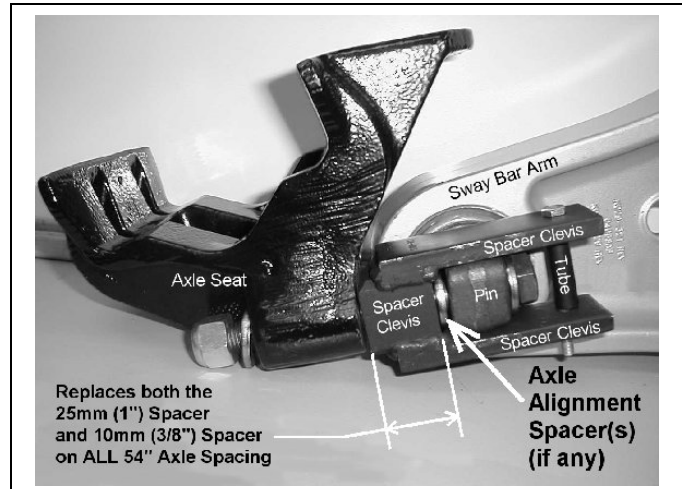

Figure 17-27
6. Chassis with AG200 54 in. axle spacing: If present, cut off and discard the spacer clevis. See Figure 17-27. Grind the welds flush with the axle seat mounting surface.